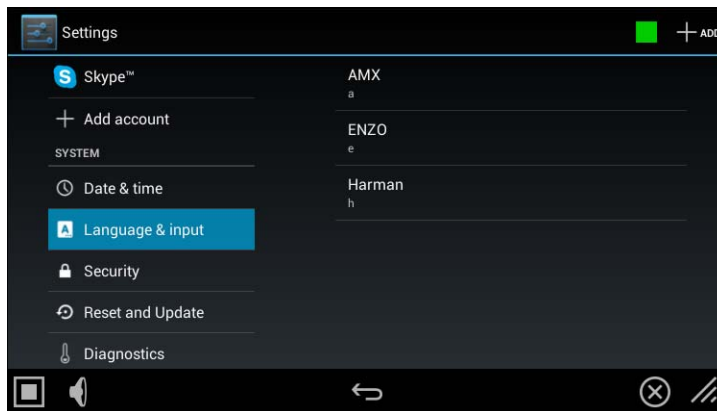

FIG. 86 Personal Dictionary window
1. In the *Language & Input* page, press **Personal dictionary** to open the *Personal Dictionary* window (FIG. 86).